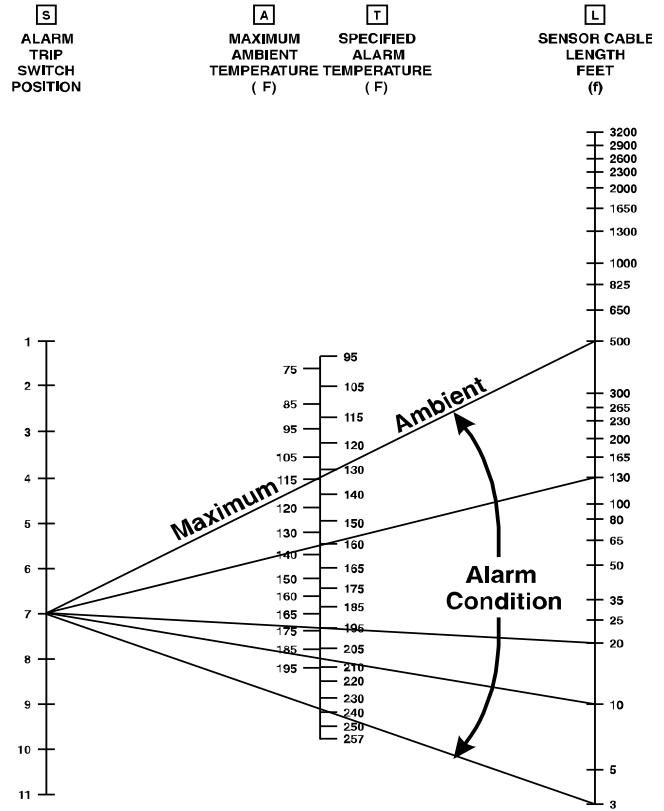

Figure 2. Example for Type "T" Cable
1. In Figure 2, a straight line is drawn from the 500 ft. (152 m) mark on Scale L through the 115°F (46°C) mark on Scale A. The line crosses Scale S at approximately switch position 7.
2. The detector in this example will generate an alarm if the temperature of the entire sensor length averages about 132°F (56°C) as shown where the line crosses Scale T in Figure 2. Higher temperatures would be needed to initiate an alarm over shorter sections of entire sensor length.